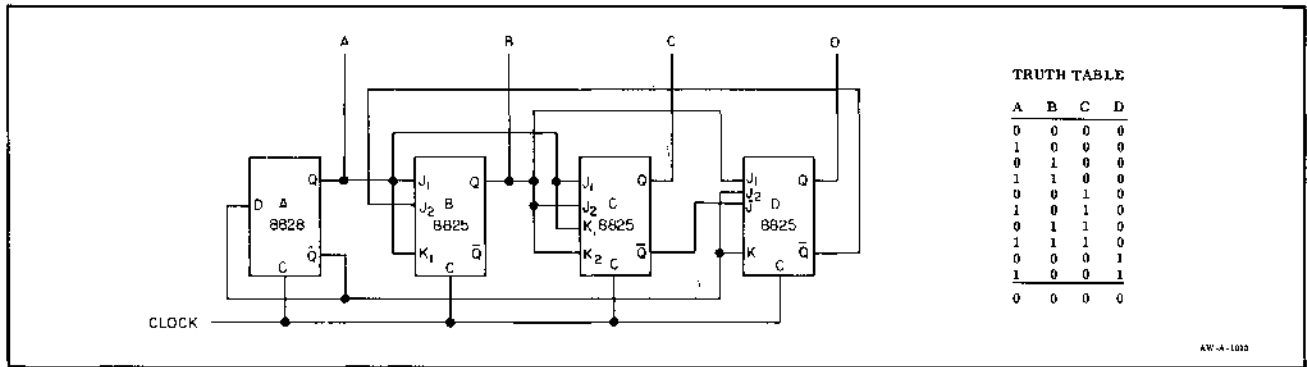

Figure 4-38
This design (shown in Figure 4-38) utilizes the built-in AND gates of the 8825. The first stage is implemented with one-half 8828 (D) binary as a part